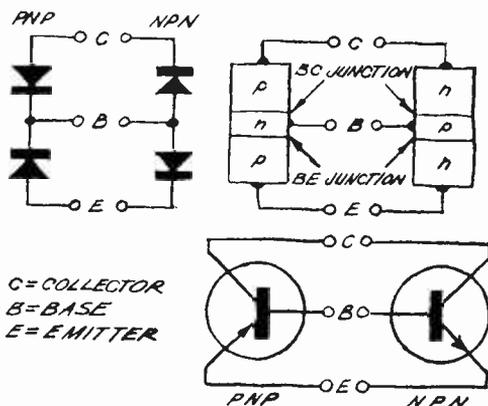

Fig. 5. Three methods of drawing transistor.
**The transistor** can be viewed as two diodes connected back-to-back as illustrated at the upper left in Fig. 5. Each diode consists of a block of n-type and a block of p-type material (remaining drawing at top of Fig. 5). In the transistor, the center block is shared by each of the outer blocks in turn to make up the diodes.
two blocks of p-type material separated by a block of n-type material. Schematic symbols for each type are shown at the bottom of Fig. 5. Note that in the schematic representations the arrow on the emitter always points toward the n-type material (direction of hole flow)—toward the base in the pnp transistor and away from the base, or the emitter itself, in the npn transistor.